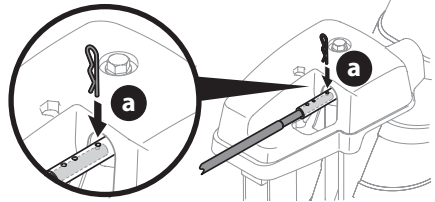

Figure 72
1. Remove cotter pin (a) from either of the holes furthest from the chute assembly on chute control head (Figure 72).
2. Push in chute control rod until the hole in it lines up with the third hole in chute control head (Figure 72).
3. Reinsert cotter pin (a) through this hole and chute control rod (Figure 72).